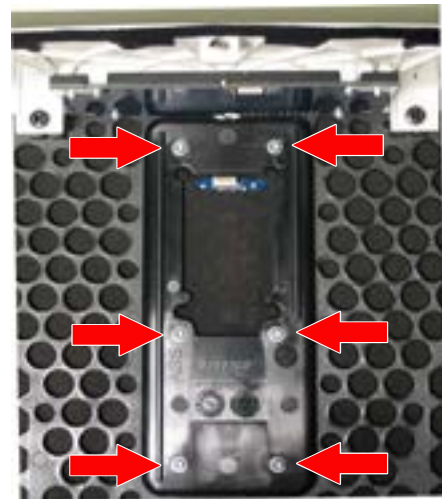

Figure 12. Display Assembly Removal
6.2 Remove the six screws securing the display assembly to the grille. Lift out the display assembly. Figure 12.